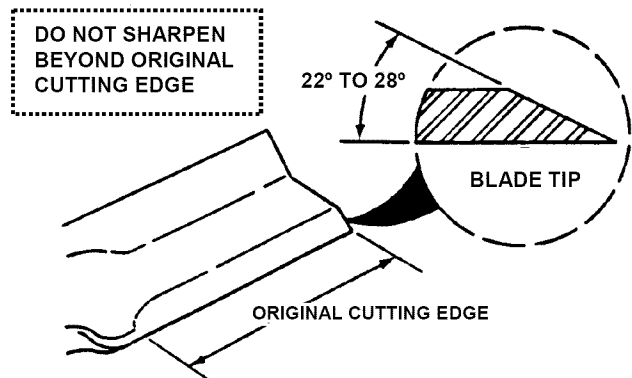

FIGURE 4.17
8. If blade is in good condition, sharpen at 22 to 28 degrees. **DO NOT** sharpen beyond existing cutting edge. See Figure 4.17.
1. Remove blade(s). See Figure 4.17. Replace blade(s) if it shows signs of excessive wear or damage. See chart below for replacement